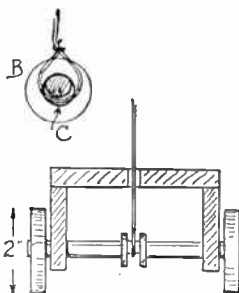
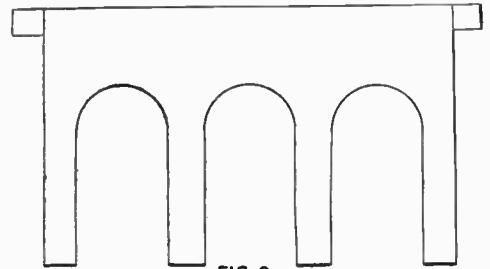

Fig. 3
FIG. 9
To form the roof of the well, two uprights of wood about 3ins. by ½in. in section and about 4ft. long are cut off and shaped at the top. The formation of one of the ends is shown in Fig. 3, with suitable measurements suggested, and in
Figs. 3 and 4—Details of the roof supports
soon get clogged up), but a much neater job is made with a proper punch. With a drilling machine, of course, the holes can be drilled. A 'bayonet catch' is needed (one each side would be even better). Fig. 3 shows the inverted L-shaped slot to cut in the lid. This lid should have a wired or pressed rim, as shown in Fig. 2, so that the projecting part of the L-slot corresponds with the rim stiffening and is thus strong. If two catches are used do not forget that if one faces left, the other must face right. With the lid in position mark out the place for the pin (x). Make a small hole in the body of the can and insert from inside, a short thick brass nail. A touch of solder will fix it. The part of the nail outside the can is then cut and filed away, so that only  $\frac{1}{16}$  in. or so projects.
A front view of the platform is given in Fig. 3, to show the simple mechanism for working the head. First cut the two axles, about 5 ins. long. The wheels are 2 ins. diameter, at least that size is suggested, but up to 3 ins. diameter could be substituted. The wheels could be cut from  $\frac{3}{8}$  in. wood and bored centrally to fit the axles. As a general practice, it is really better to buy wheels; they are usually more accurate than the home made kind, unless a lathe is available for turning them.
board, Fig. 3. Larger battens supporting the tree scene and arches, Fig. 8 and Fig. 9, or any other 'cut-outs', can be dropped into these when they are required.
Cut a hole in the first board on each side (Fig. 3) sufficiently large in size to allow light from the floodlights placed outside to shine through.
Mount the front curtain rails on the top batten shown in Fig. 3. Two pulleys are required, on one side and one on the other. Fig. 6 shows how the cord is attached.
This lamp is adjustable for height by using any hole in the upright and for angle by tipping lamp before tightening the wing nut. If filters are required it is better to use the square lamp and make grooves in tinplate as for the overhead lights. This lamp can be used to shine through the hole cut in the first board (Fig. 3) or used inside the theatre at any desired height and angle. (126)